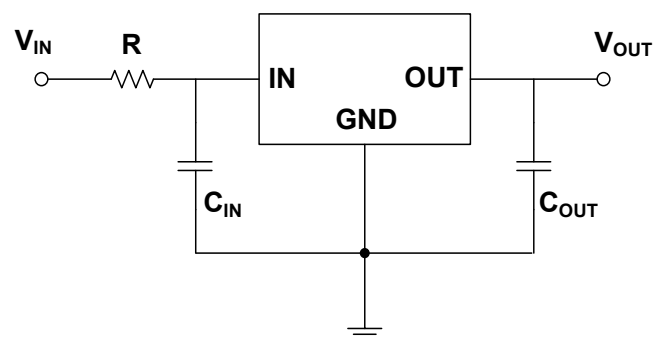

Figure 9-2. Resistance are used at IN
2. Place a resistor with appropriate resistance in series before the IN of the voltage regulator, which can help the voltage regulator share part of the energy in case of surge. The resistance value of the resistance should not be too large. The specific resistance value depends on the application of the circuit. Generally, the resistance value of this resistance does not exceed 20Ω. As shown in Figure 9-2.
For the CJ78 series, it is recommended that the input voltage should not exceed 17V and the peak voltage should not exceed 35V. **When the input voltage is greater than 17V, or the peak voltage that may be greater than 35V may appear in the practical circuit, it is recommended to adopt the circuit layout shown in Figure 9-2 in the circuit design.**
The CJ78 series can obtain better transient response with the help of output capacitance. However, if the output capacitor is relatively large, the surge current generated by the charging of the output capacitor will also be large at the moment of power on of the regulator, and the large surge current passing through the regulator may damage the internal circuit. When the output capacitance is large, adopting the circuit design shown in Figure 9-2 will reduce the possibility of damage to the device due to large surge current to a certain extent. It is recommended that the selection of output capacitor should not exceed 20 μ F. **If the selection of output capacitor exceeds 20 μ F, it is recommended to adopt the circuit design in Figure 9-2 to reduce the possibility of accidental failure of the device due to large surge current during power on.**
It is recommended that the output capacitor (C_{OUT}) should not exceed 20 μ F. When the output capacitor (C_{OUT}) exceeds 20 μ F, it is recommended to use the circuit layout shown in Figure 9-2. See *Large Output Capacitance* for more details.